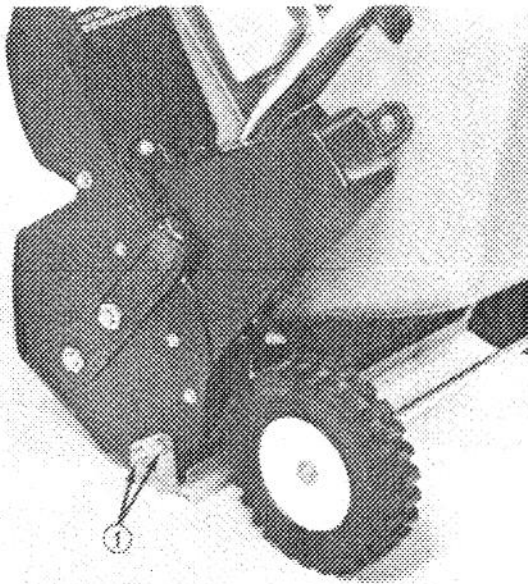

Figure 13
1. Loosen front skid adjusting nut on both sides of unit (Fig. 13).